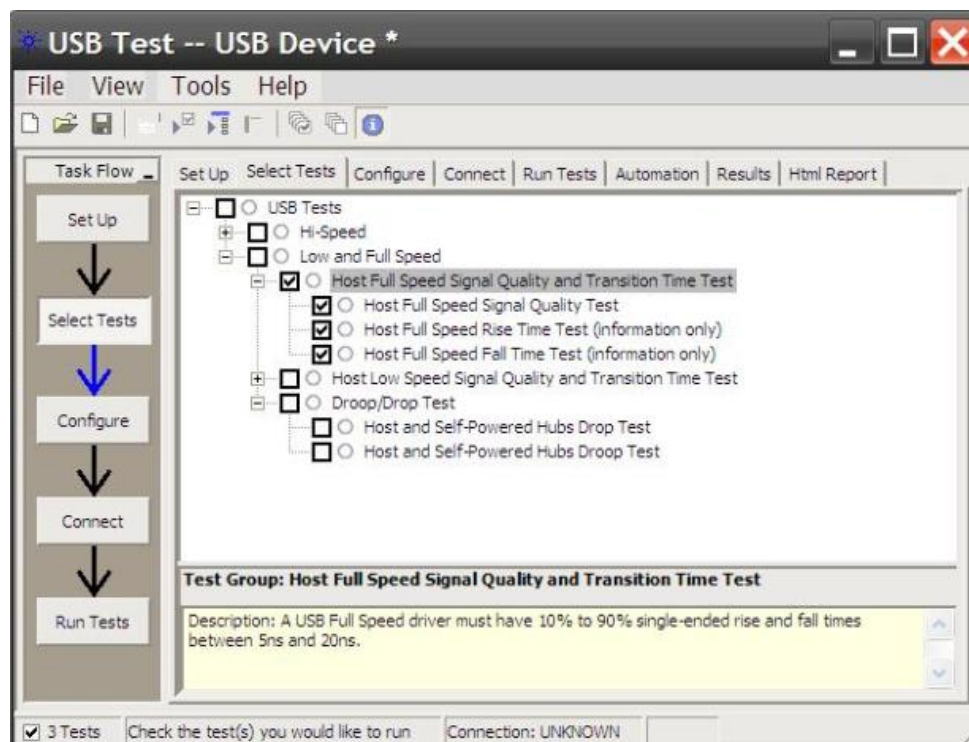

Figure 15. Automated Test software setting for the Downstream FS Signal Test
1. Select the test items in the USB Automated Test software on the oscilloscope as shown in Figure 15. Make sure you set the test type configuration option to Full-Speed Far End before running the test.